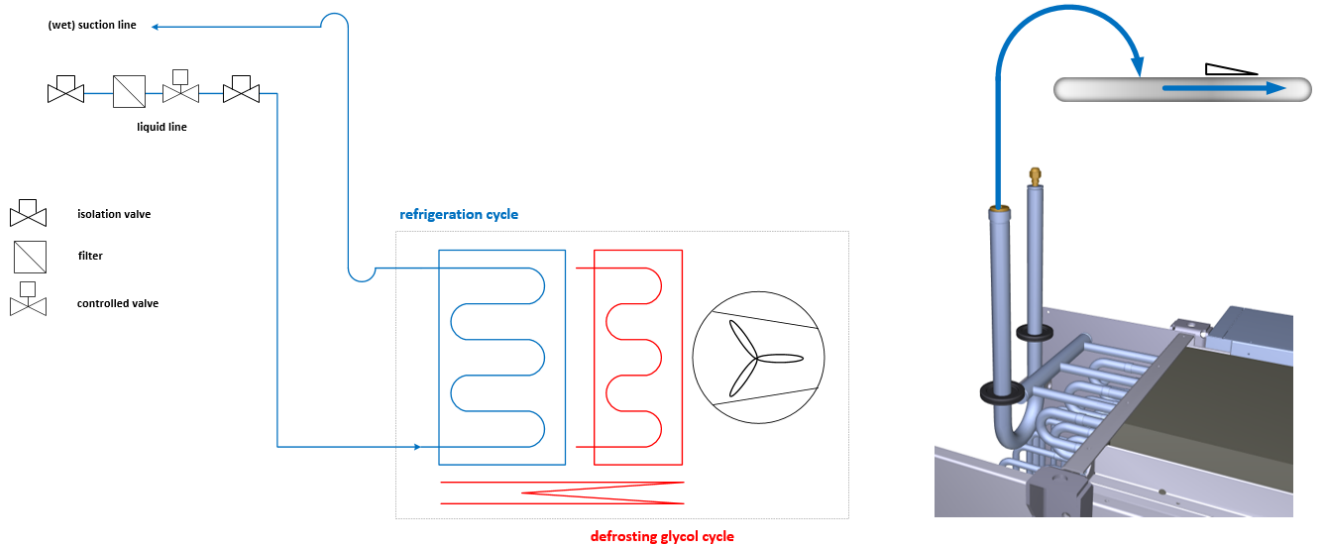

Figure 7: fittings and design, supply and return refrigerant
- Figure 7); Attention of trapped liquid when the valves are shut off!